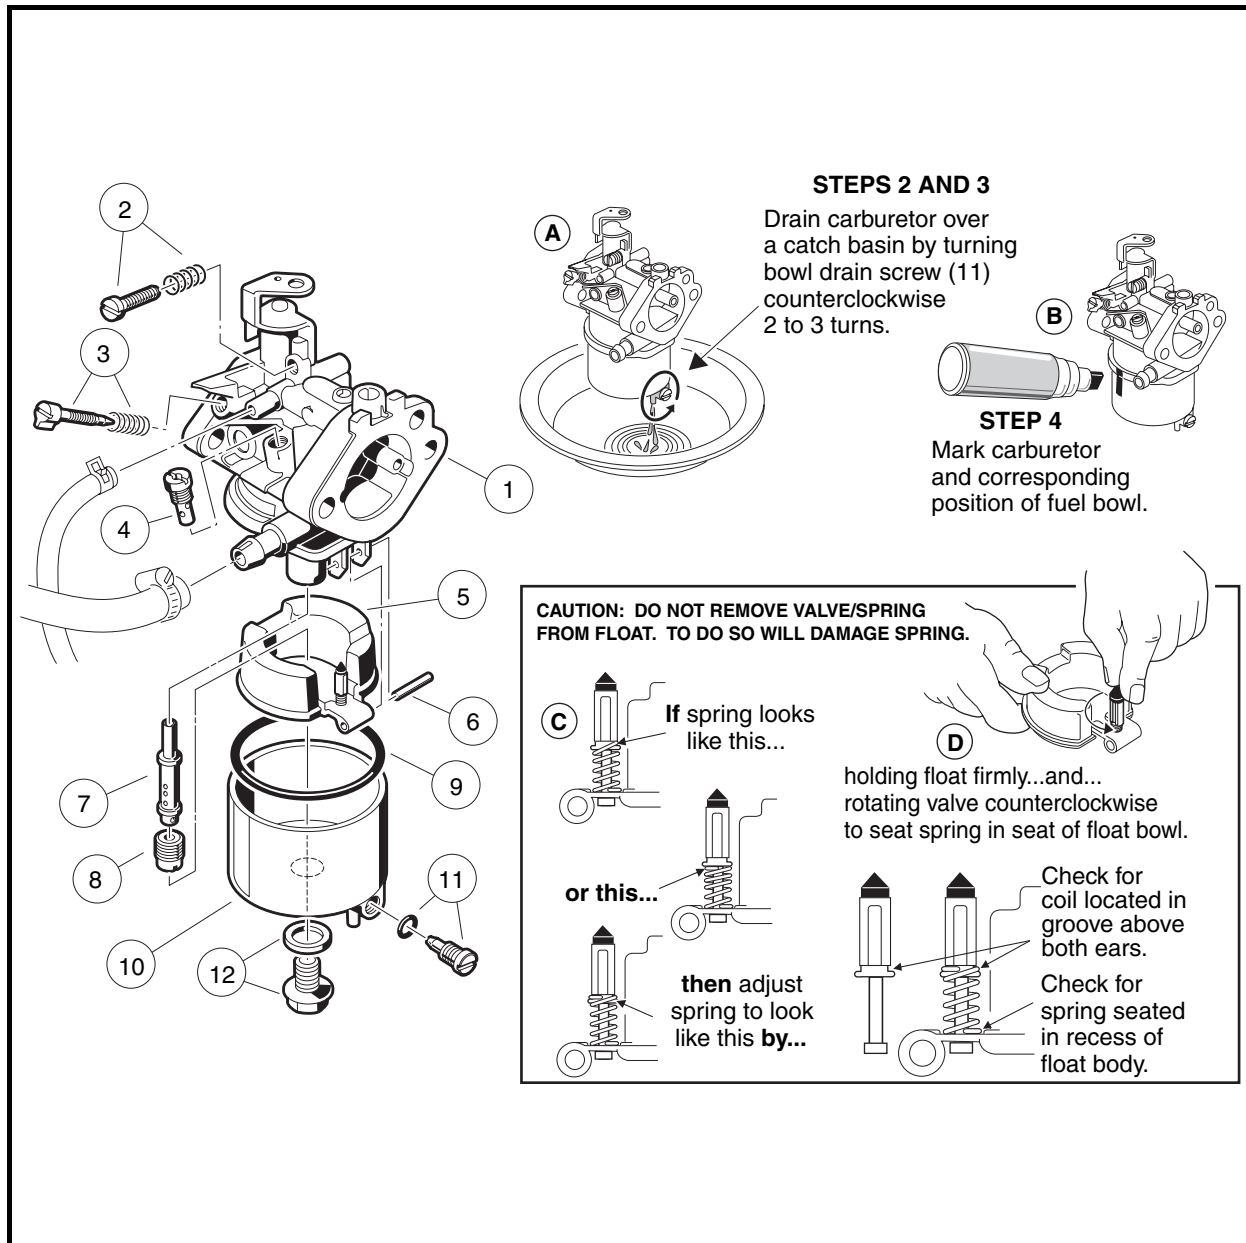

Figure 14-2 Changing the Main Jet
2. Position the carburetor with the drain screw (11) over a catch basin (**Figure 14-2, Page 14-4**).
3. Turn the carburetor bowl drain screw counterclockwise two or three turns and drain all the fuel from the bowl into the catch basin (**Figure 14-2, Page 14-4**). Tighten the drain screw to 10 in-lb (1.1 N·m). Return fuel to the fuel tank or dispose of properly.
4. Mark the body of the carburetor and the carburetor fuel bowl with an indelible ink marker so that, after removal, the bowl can be installed again in the same position (**Figure 14-2, Page 14-4**).
5. Remove the carburetor fuel bowl retaining screw and washer (12), then remove the fuel bowl (10) and clean it with a nonflammable solvent (**Figure 14-2, Page 14-4**). **See following NOTE.**
NOTE: Make sure the fuel bowl gasket (9) remains properly seated in the carburetor body when the fuel bowl is removed (Figure 14-2, Page 14-4).
6. Remove the main jet (8) from the carburetor body and discard it (**Figure 14-2, Page 14-4**).
NOTE: Make sure the fuel nozzle (7) does not fall out of the carburetor body after removal of the main jet. This is best accomplished by positioning the carburetor upside down during main jet removal (**Figure 14-2, Page 14-4**).
NOTE: Inspect the main jet nozzle (7), and pilot jet (4) to ensure they are free from contamination. Replace any part that is clogged with contamination. Replace the float if it is damaged, or if the float valve is damaged or worn. Examine the float valve/spring assembly to make sure the spring is installed correctly (**Figure 14-2, Page 14-4**).